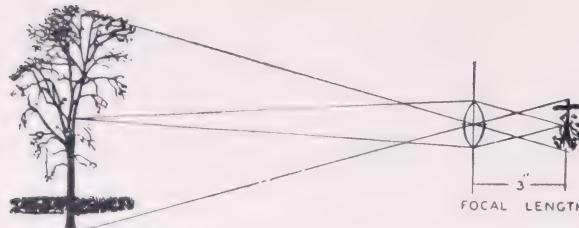

FIG. 39. HOW FOCAL LENGTH AFFECTS IMAGE SIZE—
The image would then be eight inches high. The principle involved is illustrated by *Figs. 39 and 40*.
A lens that sees more of an object plane than the normal from any given distance is called a *wide-angle*. The eye of a fish has such a lens; it is flatter in shape and sees more in all directions. The normal lens for a Contax or Leica negative is one with a focal length of 2 inches, or 50 mm. The angle of view of such a lens is only 45 degrees to 48 degrees. To increase this angle we can use a lens with a shorter focal length, one of about 1 $\frac{3}{8}$ inches or 35 mm. The wide-angle Elmar, Orthometar and Biogon, are all of this focal length, and have an angle view of about 65 degrees. For extreme wide-angle work in this size, there is the f 8 Tessar with a focal length of only 28 mm. and an angle of view of almost 76 degrees. In the larger sizes, the 4 x 5-inch for example, we can get wide-angle lenses even more extreme. The Aristostigmat, for instance, used to increase the angle of view in this size, has a focal length of 4 inches and a view of 105 degrees. The important things to remember about wide-angle lenses are that (1) while they increase the object angle, they reduce the image size in direct proportion (see *Figs. 39 and 40*); (2) they increase the apparent depth of focus by reducing the size of the circles of confusion; and (3) the angle of view can be increased slightly by racking the lens back and stopping down to compensate. The Dagor is used in this way.